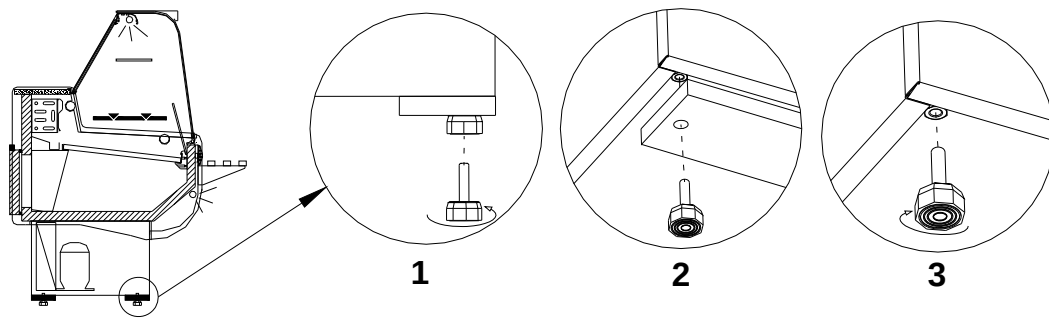

Fig.2 Removing the wooden platform
- Unpack the device and remove the wooden platform from the basis Fig.2 \(p.7\)